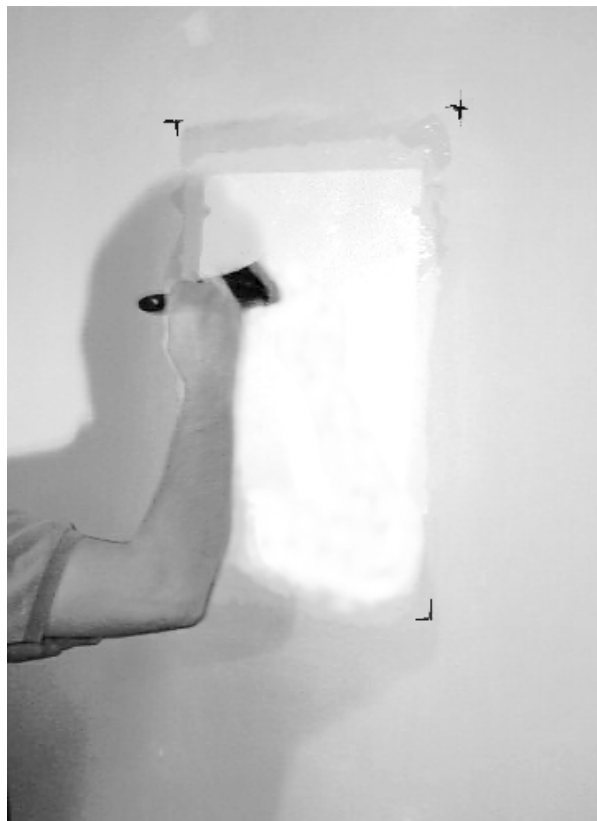

fig. 23
9. Locate the vinyl based Overlay Adhesive. Utilizing a pasting brush or roller, apply the overlay adhesive to the surface. Be sure to apply the adhesive 1" (25mm) beyond the overlay outlined area. (please see fig. 23)